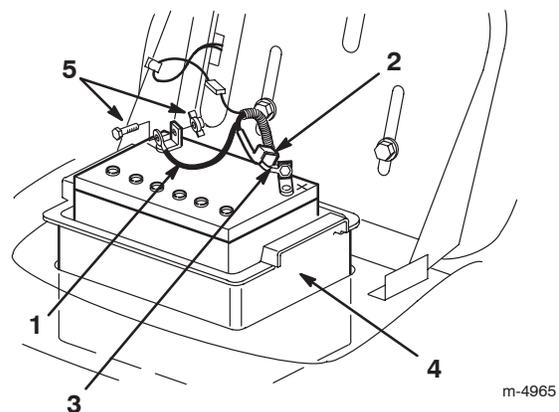

Figure 18
4. Disconnect the negative (black) ground cable from the battery post (Fig. 18).
5. Slide the rubber cover up the positive (red) cable. Disconnect the positive (red) cable from the battery post (Fig. 18).
6. Remove the battery box and battery from the chassis (Fig. 18).
1. Put the battery into the battery box and install it into the chassis (Fig. 18).
2. Using the bolt and wing nut, connect the positive (red) cable to the positive (+) battery post (Fig. 18).
4. Using the bolt and the wing nut, connect the negative (black) cable to the negative (-) battery post (Fig. 18).